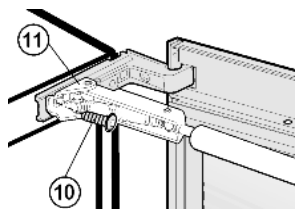

Fig. 6
- ▶ Unscrew the front screw Fig. 6 (10) from the bearing of the soft stop mechanism Fig. 6 (11).